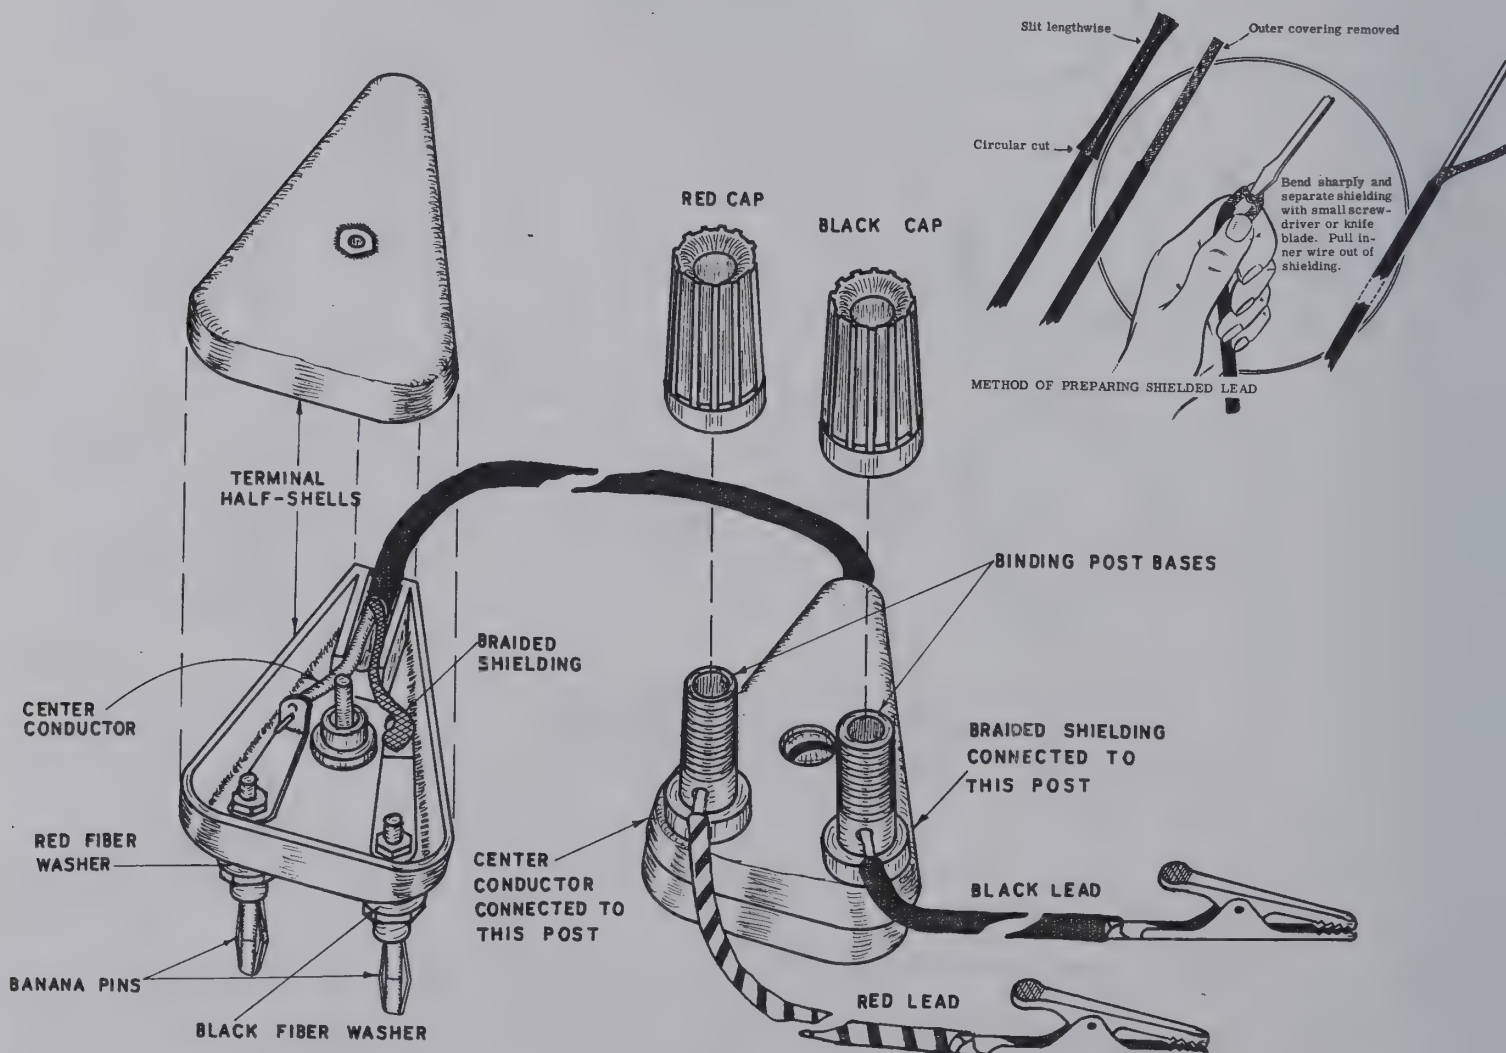

Figure 10
- (✓) Install two banana pins through the mounting holes of a terminal half-shell with a fiber washer (red or black) on the outside and with a #6 solder lug and 6-32 nuts on the inside. Install the red fiber washer and the black fiber washer on the same sides as shown in Figure 10.